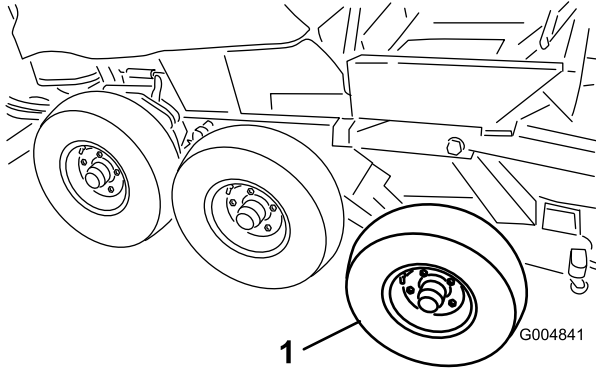

Figure 30
22. Remove the front and center tires from the winter assembly (Figure 30).